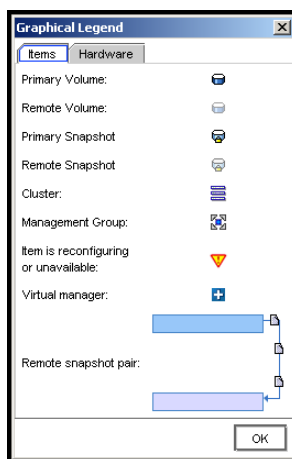

Figure 3. Viewing the Graphical Legend Items Tab
- The Items tab, shown in Figure 3, displays the icons that represent items, activities, and status in the navigation window.